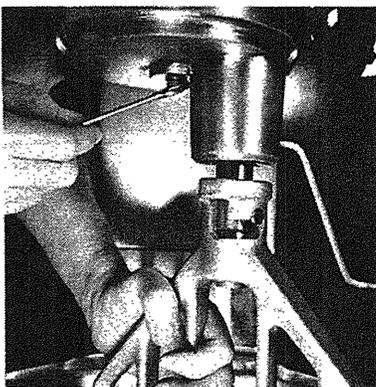

Fig. 2-2
- B. To keep the center shaft from turning, put the flat "B" beat er on and hold it while loosening the retaining screw (Fig. 2-2).